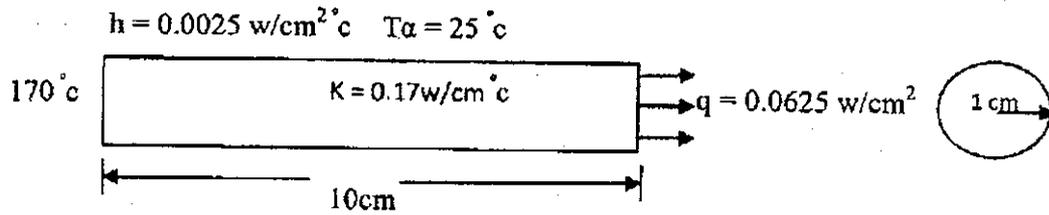

Fig. 13 (b)
- (b) Calculate the temperature distribution in stainless steel fin shown in Fig. 13 (b). The region can be discretized into 5 elements and 6 nodes.